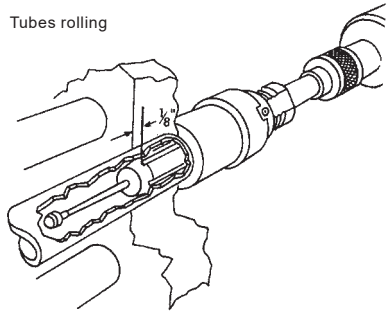

Fig. 12
1. Do not roll the tubes beyond the back face of the tube sheet (Fig. 12).